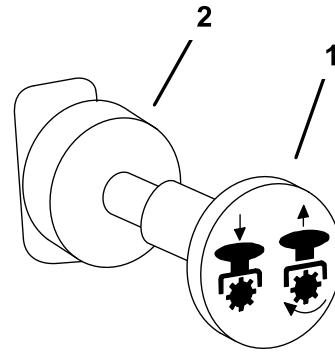

Figure 11
4. Move the PTO (power take off) switch to the Off position (Figure 11).
1. Push the PTO to the Off position (Figure 11).